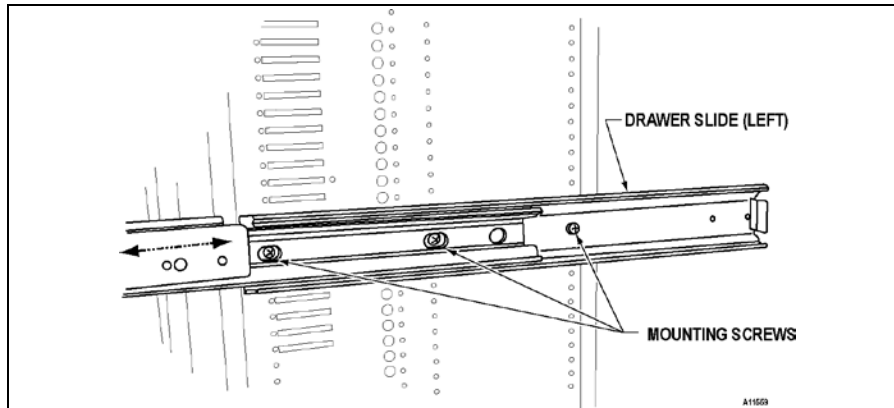

FIG 15. Drawer Slide Removal (Left Shown)
3. Remove and save the six (6) screws that fasten the tray to the left and right slides. Lift up and forward to remove the tray.
4. Pull out on slides and remove and retain the screws fastening the slides to the side walls (See Figure 15).